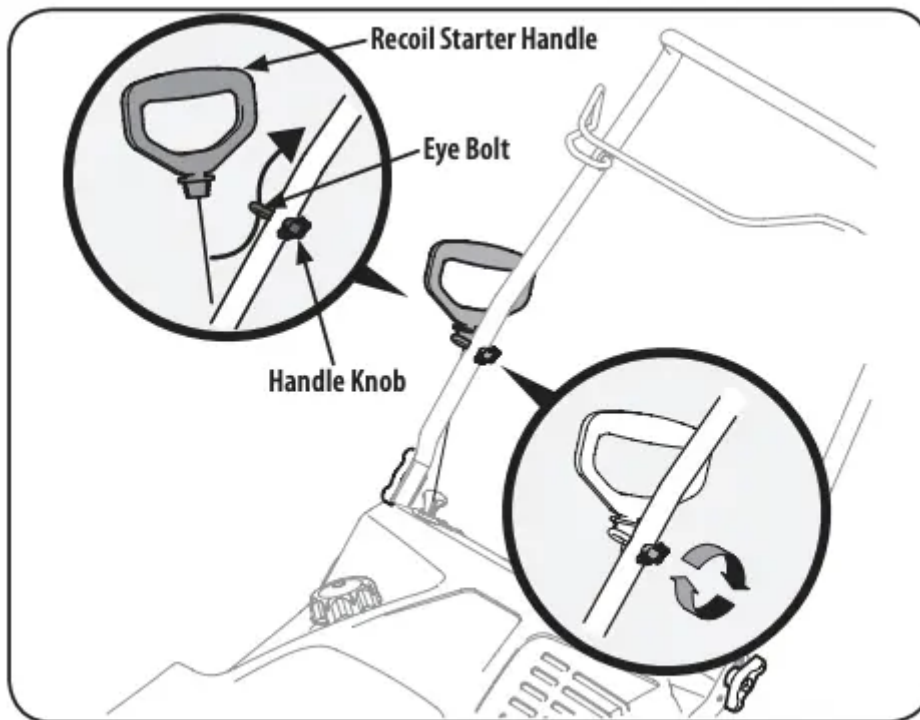

Figure 6
2. Place the eye bolt and handle knob on the upper handle as shown in Figure 6. Do not fully tighten the hardware until instructed to do so.
4. Slip the recoil starter rope into the eye bolt from the back side of the snow blower. See Figure 6.